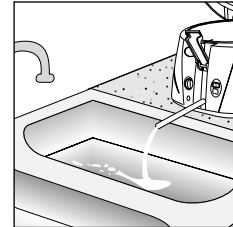

fig. 16
- It's a good idea to place the fryer on the sink drainer with the hose draining into the sink. A jug of hot soapy water and soft brush can then be used to clean the fryer bowl, with dirty water draining into sink (fig. 16).